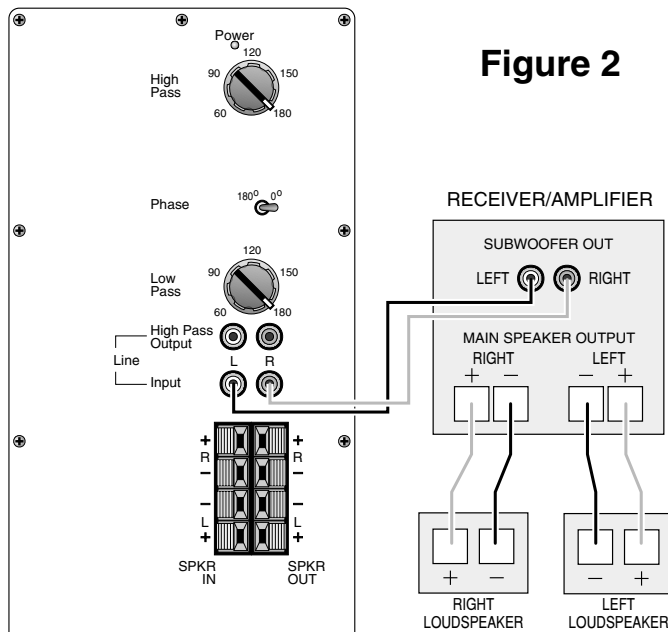

Figure 2
2) If your receiver/amplifier has subwoofer outputs or preamp output jacks for the left and right channels. See Figure 2.